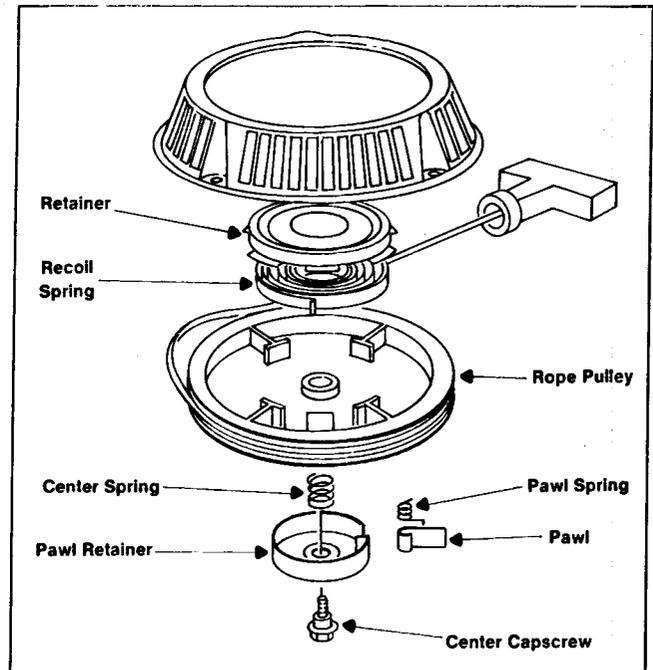

Figure 4-1
- A. Remove the center capscrew from the recoil assembly and lift off the pawl retainer. Remove the center spring, pawl and pawl spring. Lift the rope pulley assembly from the recoil housing and remove the recoil spring and retainer (Figure 4-1).